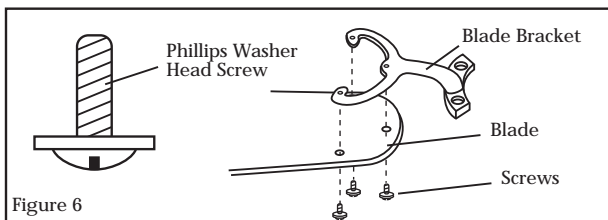

Figure 6
- Using three phillips washer head screws, secure one bracket to each of the blades. Complete this assembly before attaching blades to ceiling fan. (Figure 6)